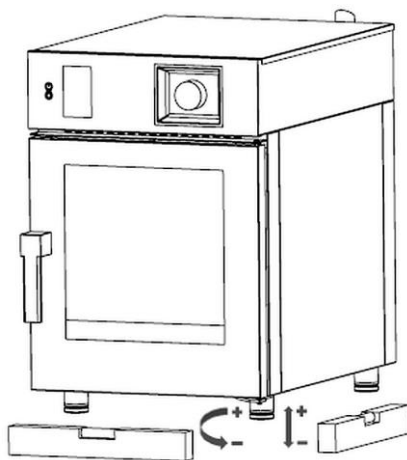

Fig. 2
- Position the appliance vertically — to this end, the height of adjustable feet is set with a spirit level, as indicated in Fig. 2.